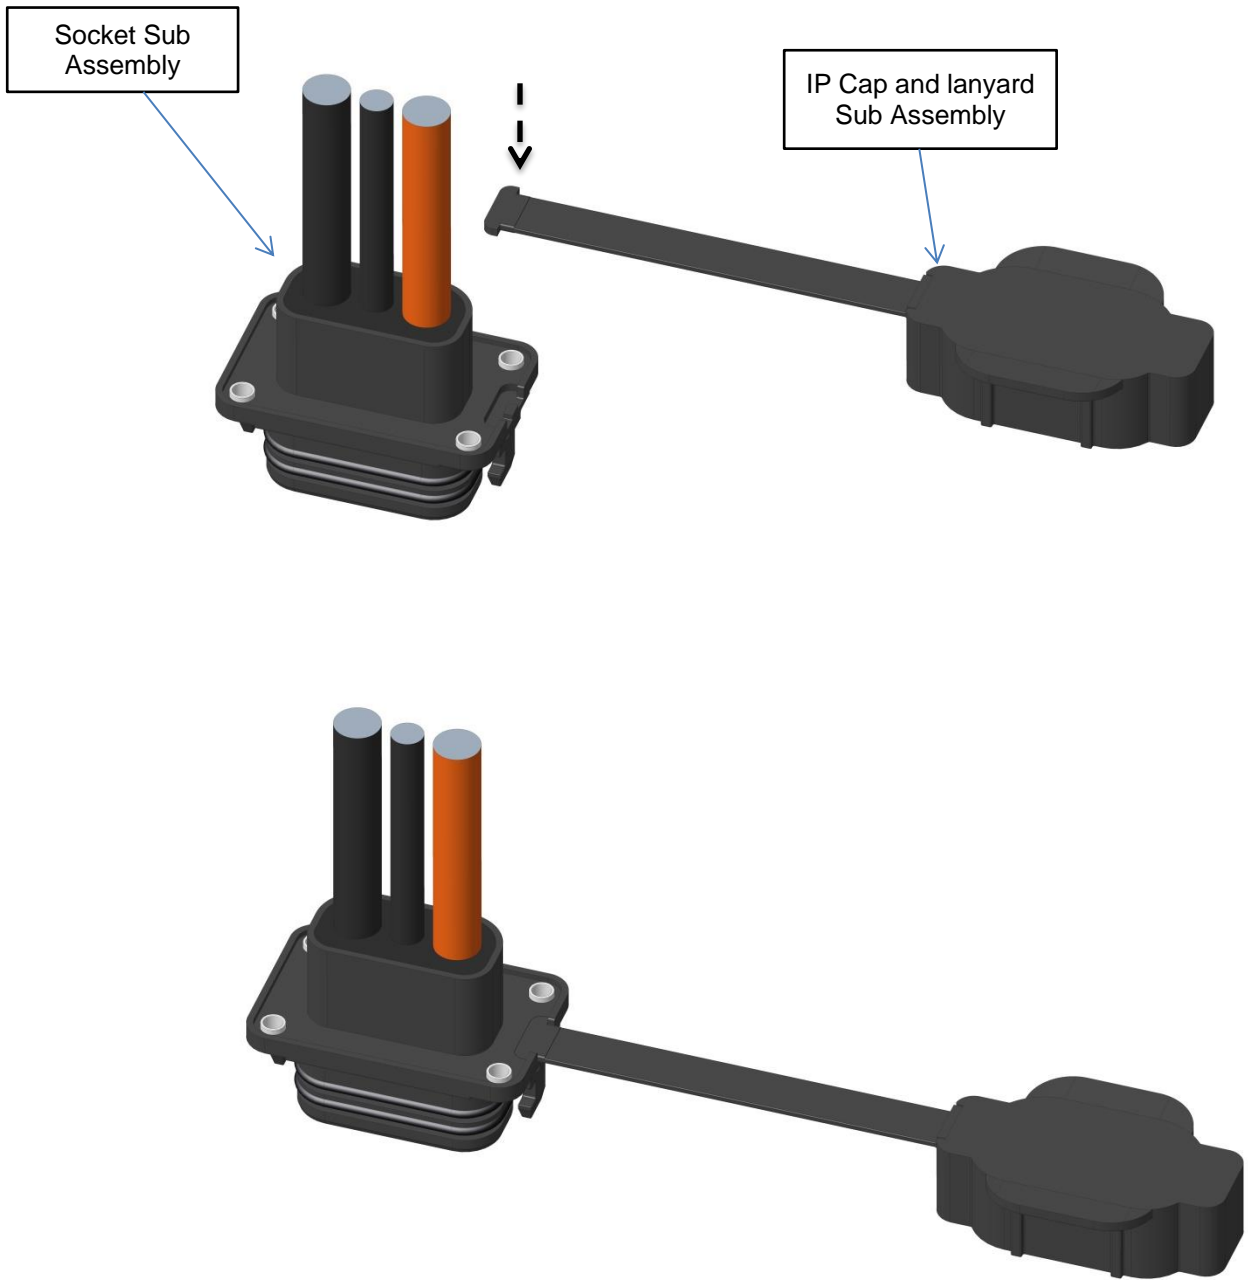

Figure 5
5.1.1 Assemble the IP cap and lanyard sub assembly to the socket sub assembly (Fig.5)